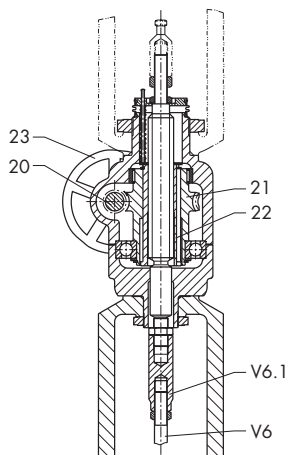

Fig. 11 · Manual override with a side-mounted handwheel for max. 60 mm travel, up to 80 kN
Type 3271 · Pneumatic Actuator with handwheel. Top-mounted handwheel for actuators with effective diaphragm areas 240 to 700 cm² (Fig. 4). Side-mounted handwheel for actuators with effective diaphragm areas 1400 or 2800 cm² (Figs. 11, 19, 20).
Fig. 11 shows the operating principle of the **side-mounted handwheel** for actuators with effective diaphragm areas from 1400 and 2800 cm² and a maximum travel of 60 mm. The handwheel (23) is fixed to the worm-gear shaft (20) and fastened by a notch. The actuator stem is adjusted via the worm-gear wheel (21) and the threaded bushing (22).